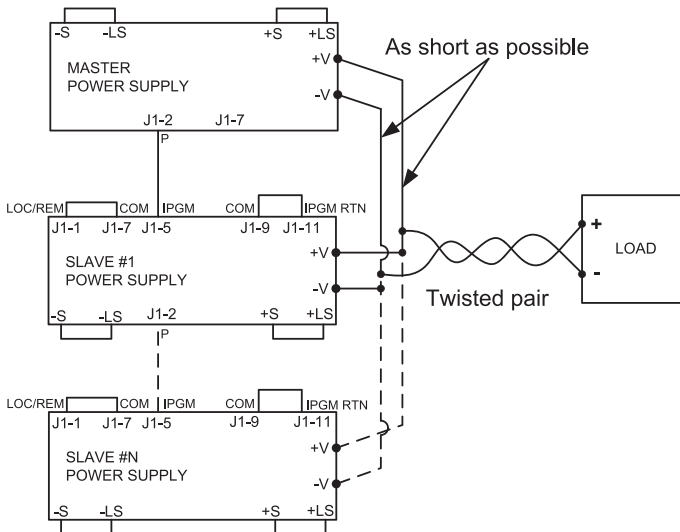
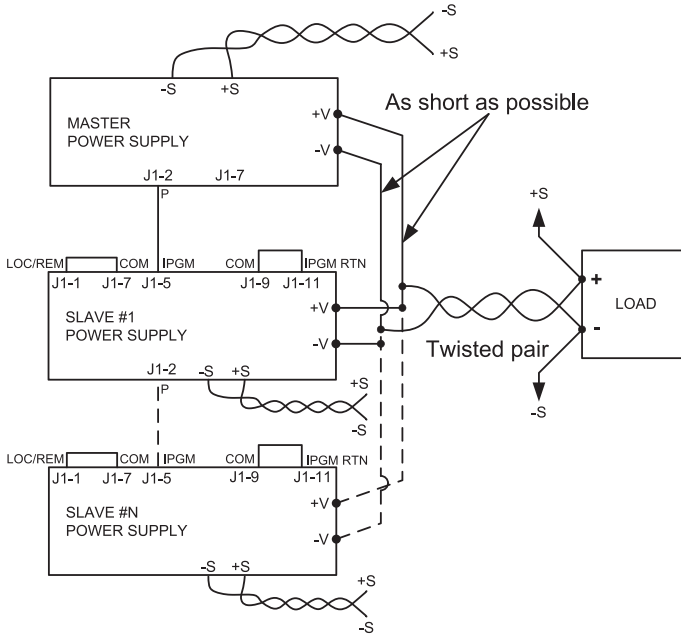

Fig.5-4: Parallel connection with local sensing
Fig.5-5: Parallel operation with Remote sensing
Set the master unit output voltage to the desired voltage. Program the current limit to the desired load current limit, divided by the number of parallel units. During operation, the master unit operates in CV mode, regulating the load voltage at the programmed output voltage. Connect the sensing circuit to local or remote sensing as shown in Fig.5-4 or Fig.5-5. Front Panel Main Menu Parallel mode is "H1" as default.
5. For wiring instructions, refer to Fig.5-4: Parallel connection with local sensing or Fig.5-5: Parallel connection with remote sensing.
In parallel operation, power supplies can be connected in local or remote sensing. Refer to Fig.5-4 and 5-5 for typical connections of parallel power supplies. The figures show connection of two units, however the same connection method applies for up to 6 units.
Set the master unit output voltage to the desired voltage. Program the current limit to the desired load current limit, divided by the number of parallel units. During operation, the master unit operates in CV mode, regulating the load voltage at the programmed output voltage. Connect the sensing circuit to local or remote sensing as shown in Fig.5-4 or Fig.5-5.
6. For wiring instructions, refer to Fig.5-4: Parallel connection with local sensing or Fig.5-5: Parallel connection with remote sensing and Section 5.6: Daisy-Chain connection.